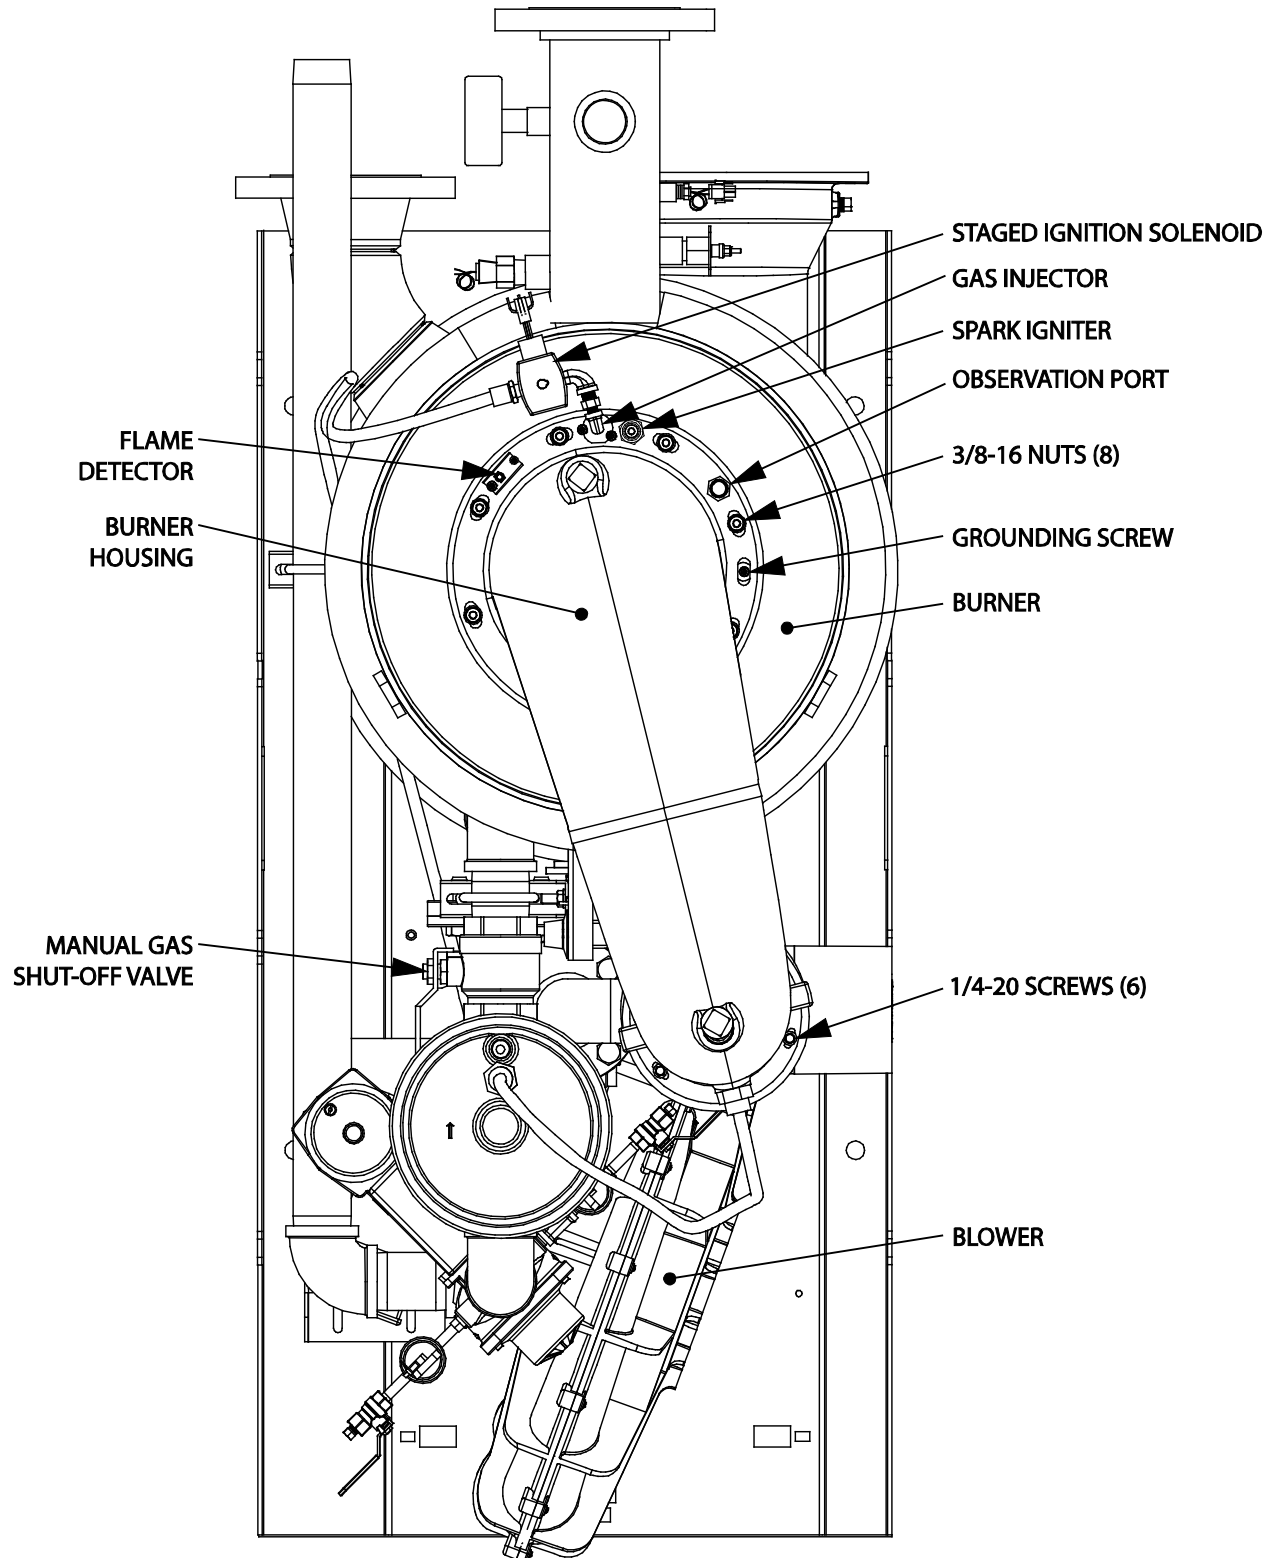
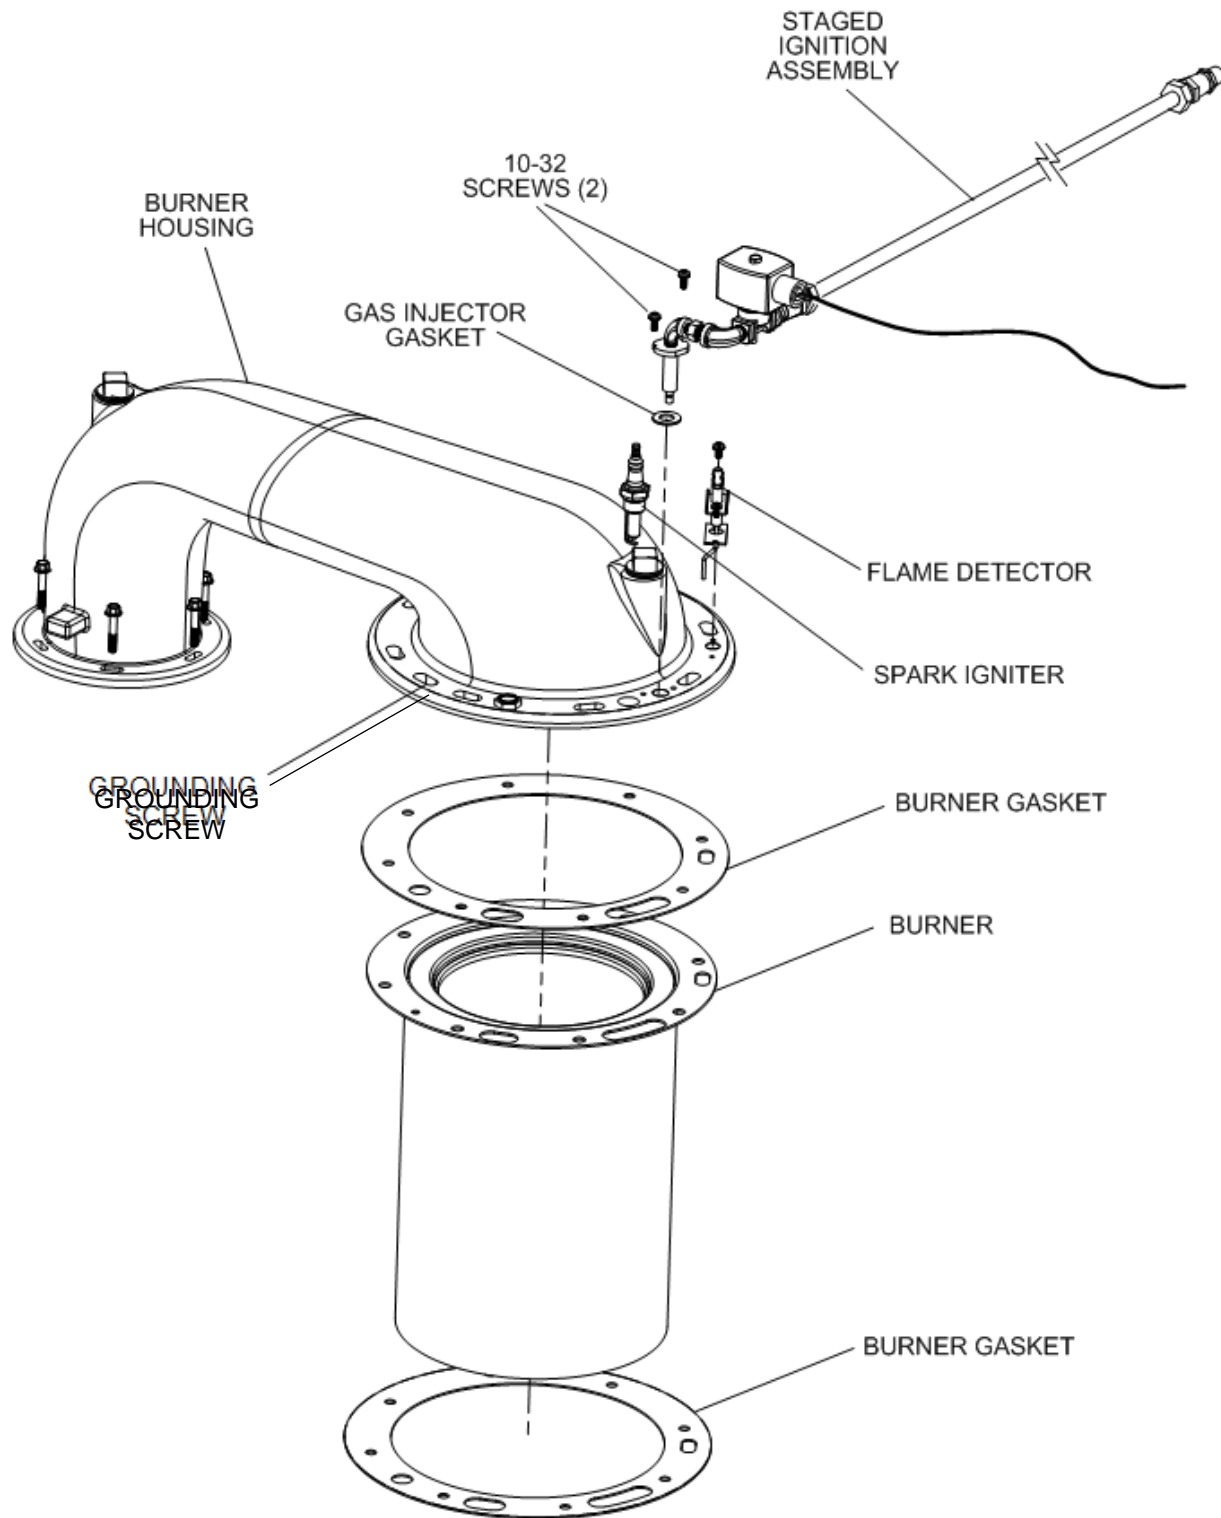

Figure 4: Benchmark 2.0LN - Top View
Figure 5: BMK2.0LN (Venturi Design) Burner Assembly - Exploded View
The Burner Assembly is located at the top of the heat exchanger as shown in Figure 4. Figure 4 shows the Burner Assembly mounting details looking down onto the top of the boiler and Figure 5 shows an exploded diagram of the complete Burner Assembly removed from the unit.
4. Remove the two (2) 10-32 screws securing the Staged Ignition Assembly to the burner. Separate the Staged Ignition Assembly and gas injector gasket from the burner. The Gas Injector Gasket will be replaced at reassembly with a new one from the kit.
5. Disconnect the burner housing from the blower by removing the six (6) 1/4-20 screws using a 3/8" wrench (Figure 4).
6. Remove the eight (8) 3/8-16 nuts from the burner flange (Figure 4) using a 9/16" wrench.
7. Remove the grounding screw (Figures 4 and 5).
10. Remove the burner by pulling straight up. Be sure to remove and discard the two (2) burner gaskets. At reassembly, these gaskets will be replaced with new ones from the kit. Figure 5 shows an exploded view of the burner assembly for a BMK2.0LN Venturi Boiler.
1. Refer to Figures 4, 5, and 6 to locate the Flame Detector installation location.
1. Reinstall the grounding screw to the Burner Housing (Figure 4).